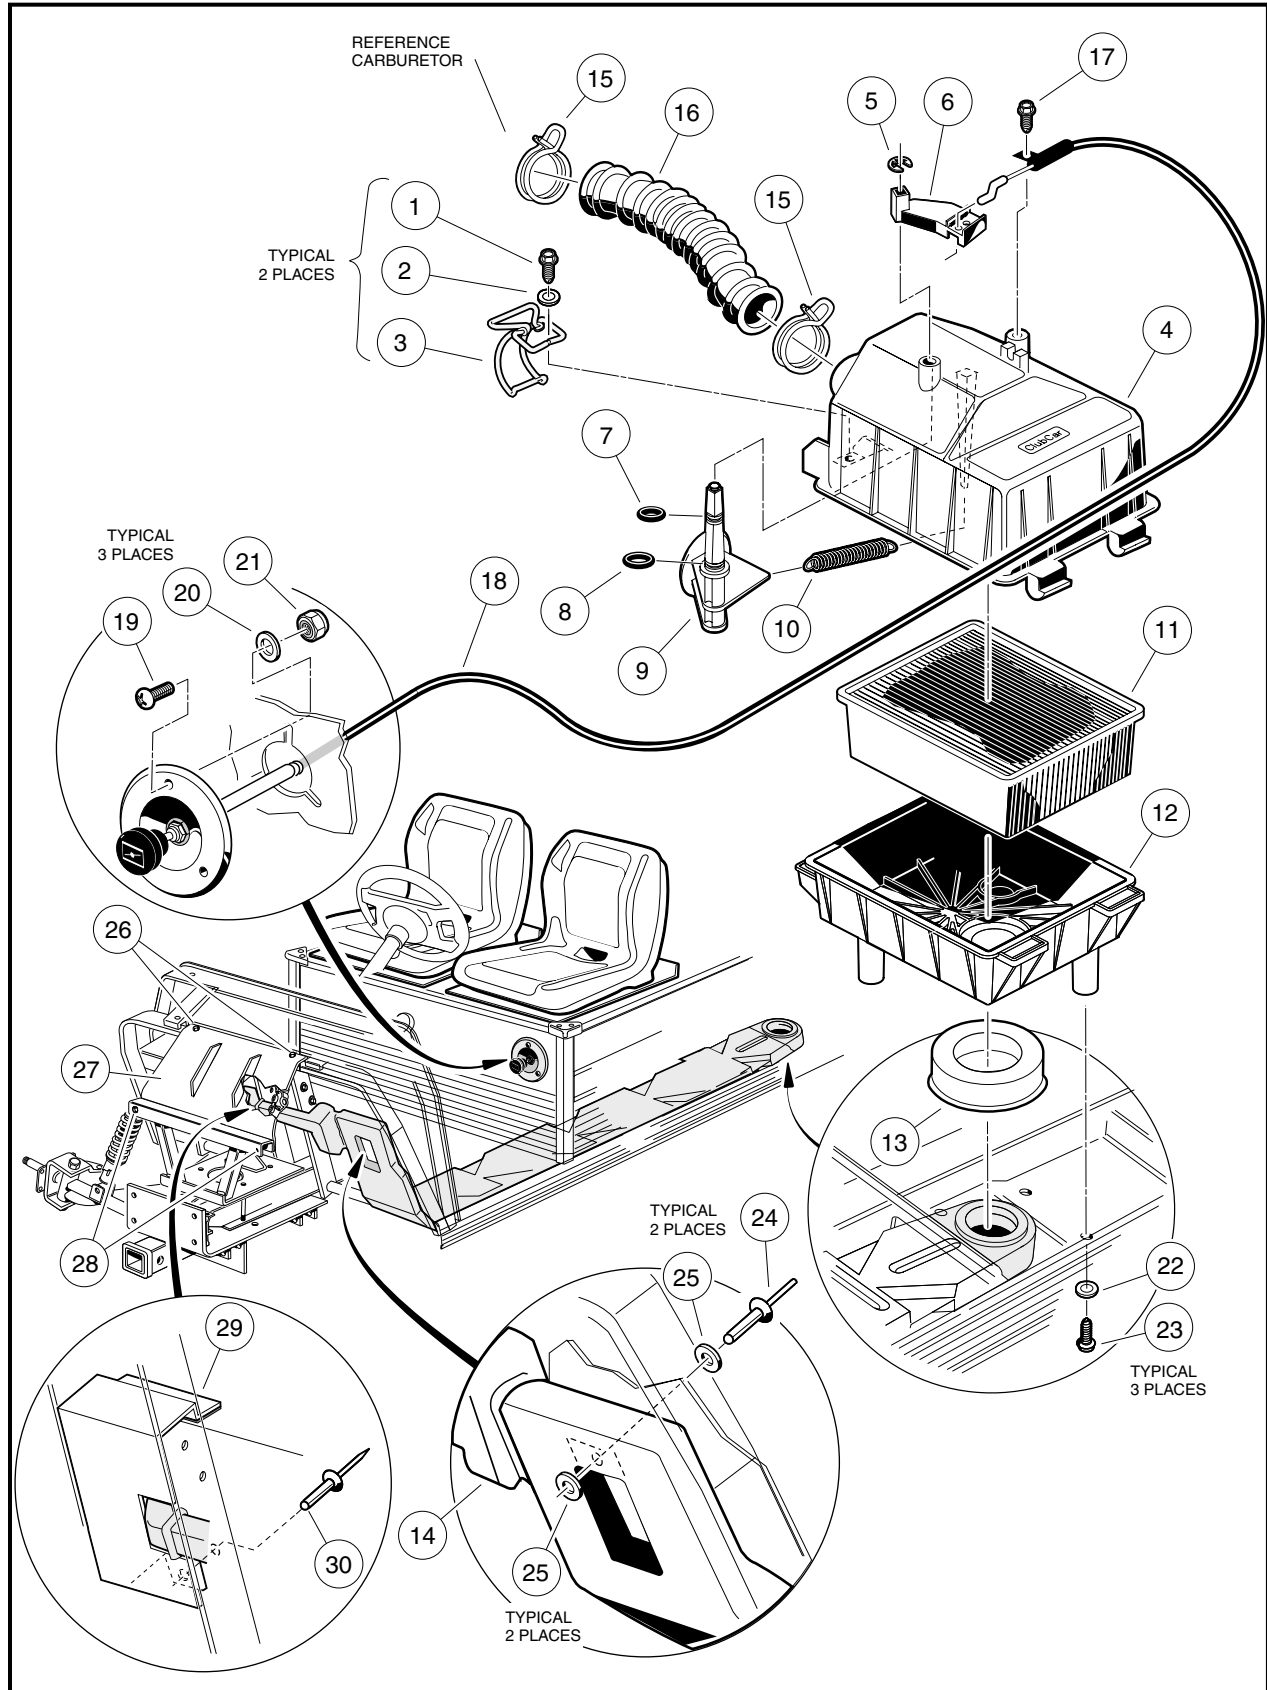

Figure 14-15 Air Intake and Choke Assemblies
9. Remove the two bolts (26), lock nuts and flat washers that secure the top of the strap plate (27) to the vehicle frame (**Figure 14-15, Page 14-22**).
10. Remove the two bolts (28) and nuts that connect the upper shock mounts to the shock tower and bottom of the strap plate (27) (**Figure 14-15, Page 14-22**). **See following CAUTION.**
- When removing the two bottom bolts (28) from the strap plate and shock tower, the A-arm assemblies will drop. It's best to have one person hold the front brake drum assembly while a second person removes each bolt from their respective shock and shock tower, and gently allow the A-arm assembly to rest in a suspended condition.
11. Remove the strap plate (27) (**Figure 14-15, Page 14-22**).
12. Roll the floor mat from underneath the dashboard and drill out the one bottom pop rivet (30) that secures the air intake shield (29) to the floorboard.
14. Remove the shield (29) from the vehicle frame.
15. Drill out the pop rivet (24) securing the top of the intake duct to the floorboard (**Figure 14-15, Page 14-22**).
2. Secure the front of the duct to the underside of the floorboard with pop rivet (24) and flat washers (25) (**Figure 14-15, Page 14-22**).
4. Install the shield to the frame with the adhesive strip and pop rivet (30).
- 7.1. Attach each of the front A-arms to the to the shock tower at the top shock mount and bottom hole locations of the strip plate (27) using bolts (28) and lock nuts. Do not tighten (**Figure 14-15, Page 14-22**).
3. Lift two latches (3) on the side of the air box (**Figure 14-15, Page 14-22**).
4. Remove the hose clamp (15) from the air hose and remove hose from the air box assembly.
5. Standing on the driver side of the vehicle, grasp air hose mounting inlet and open box fully. Remove filter element (11).
8. Fasten wire latches (3). Make sure latches securely engage the bottom half of the box. **See following CAUTION.**
9. Install hose (16) and hose clamp (15) (**Figure 14-15, Page 14-22**). Make sure clamp ends are located in the 12:00 o'clock position.